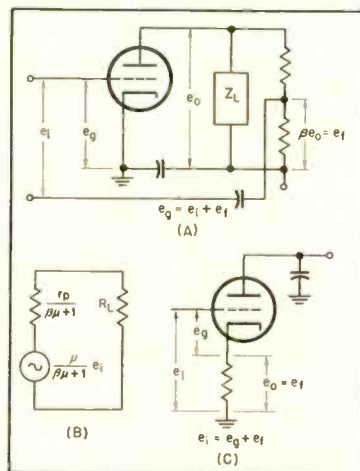
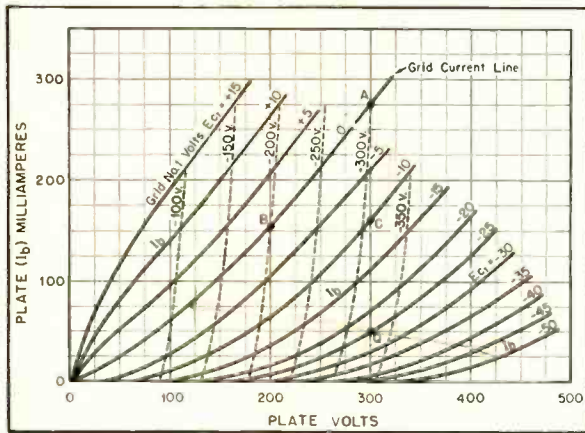

Fig. 1. (A) General schematic of voltage feedback circuit, and (B) its equivalent. (C) Simple cathode follower circuit.
Fig. 2. Conventional plate characteristic for triode-connected 807 (solid lines) and cathode-follower characteristic (dotted lines).
The simple general negative voltage feedback circuit, its equivalent, and the simple cathode follower circuit are shown in Fig. 1 at (A), (B), and (C) respectively. The fraction of the output voltage that is fed back out of phase with the input voltage is denoted by β . For the cathode follower, β is 1, and consequently there is 100 per cent inverse feedback. From (B) it may be seen that since the equivalent generator magnitude is $\mu/(\mu\beta + 1)$ times the input, the cathode follower can never give a voltage gain, but must always result in a loss, the value of which depends directly on the amplification factor of the tube. There can be, however, a considerable power gain, and it is this fact that makes the circuit useful as a power output stage.
Figure 2 shows the plate characteristic for a rather high r_p power triode—the 807 triode connected. For cathode follower operation the value of β is unity. Then for any cathode voltage e_o the feedback voltage e_f equals βe_o , which is e_o . A voltage of 300 on the cathode represents a feedback voltage of 300. Reference to (C) of Fig. 1 will show that the voltage polarity is defined as positive in the direction from ground to cathode and that the plate of the tube is at ground potential for a.c. voltages. The plate-to-cathode voltage is therefore negative as far as the defined voltages are concerned. If the plate voltages on the plate family characteristics (which are, of course, plate-to-cathode voltages) are taken as negative for the feedback conditions of the cathode follower, these characteristics can be used to create a new set of curves valid for cathode follower operation.